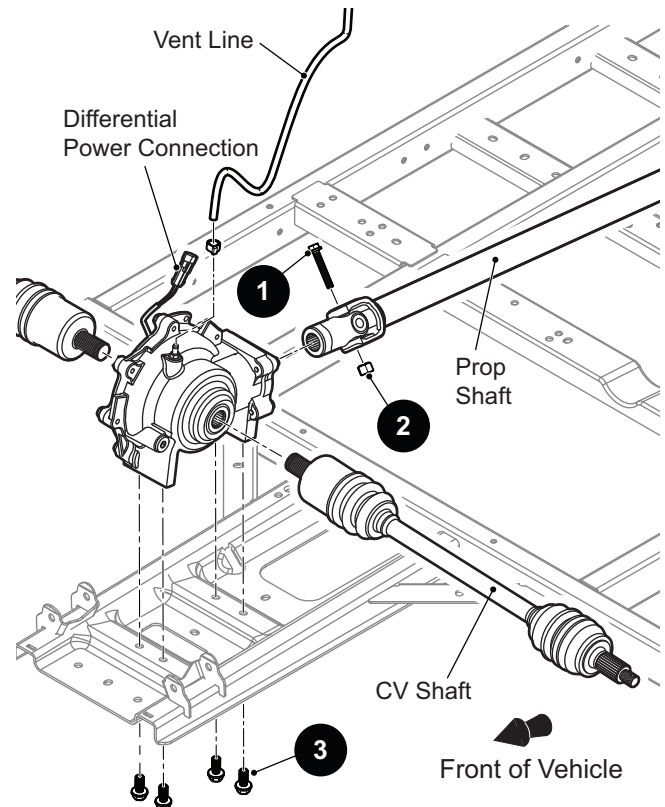

Fig. 19 Front Differential Replacement
3. Remove the drain plug from the bottom of the front differential and allow the oil to drain completely (Ref. Fig. 19).